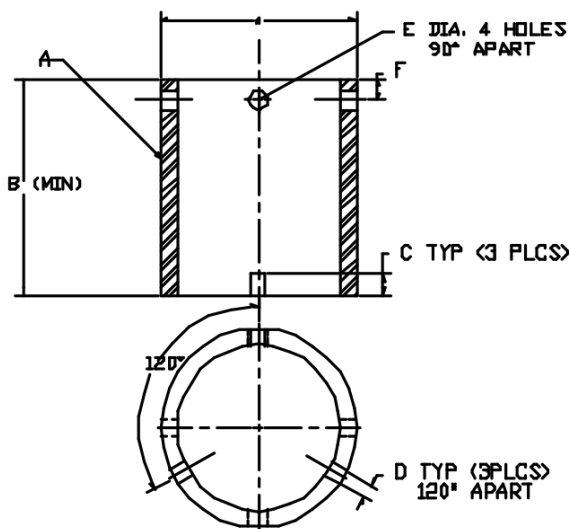
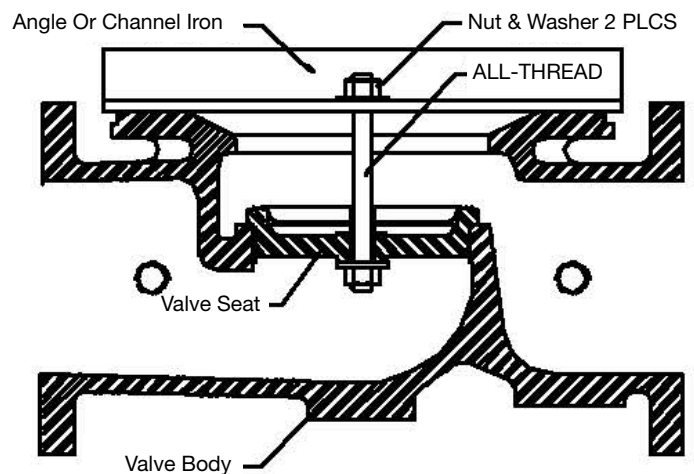

Figure 3
Figure 4
7. Inspect valve seat. If seat is not damaged, removal is not necessary. Valve seats 6" and smaller are threaded into the body of the valve and require a seat removal tool (figure 3) (Table 1 details the tool dimensions for seat removal). Valve seats 8" and larger are held in the valve body with stainless steel cap screws. Remove seat retaining screws and lift seat straight up (Figure 4).